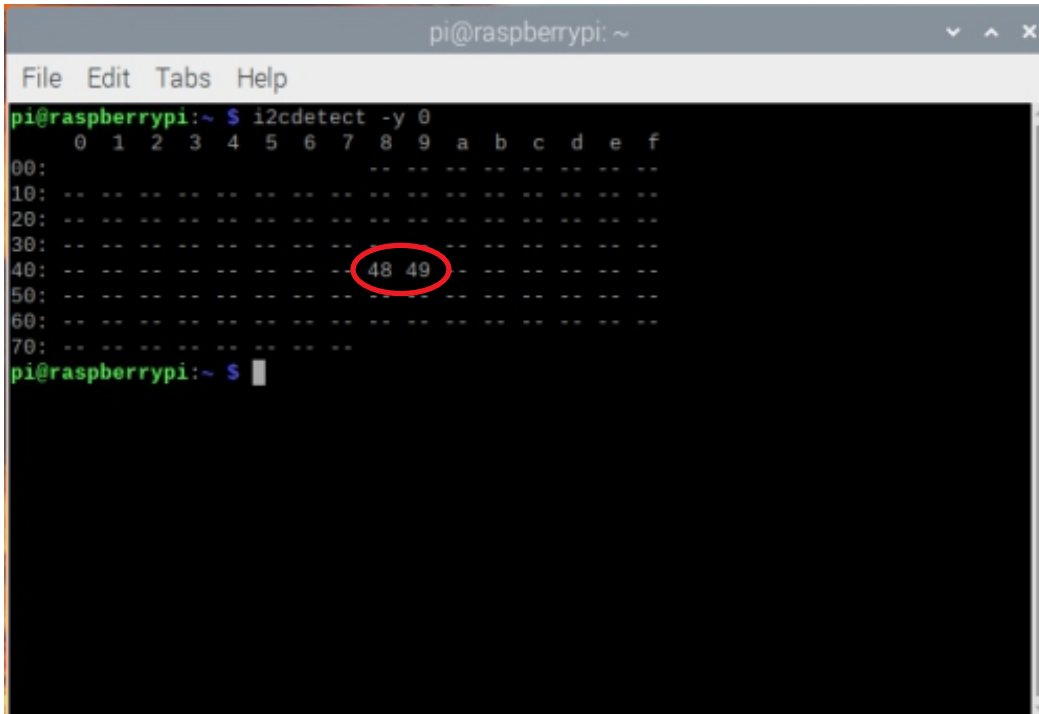

Figure 2: The Analog Input Module I2C address check result .
4. The result will be similar to the Figure 2 shown below.